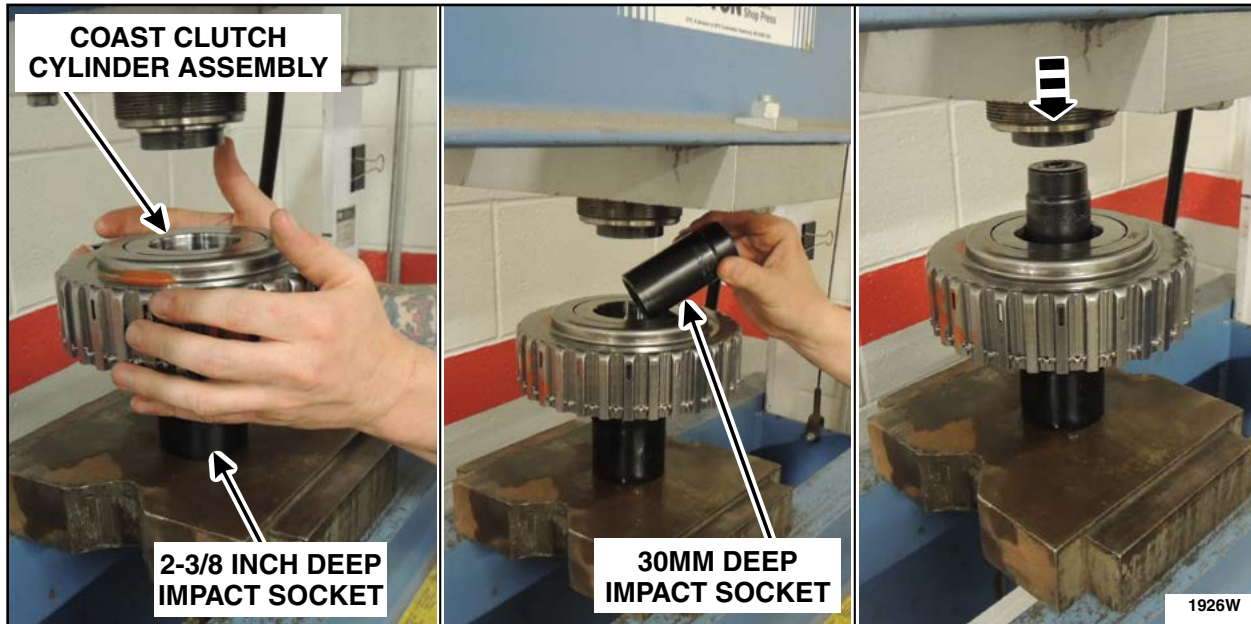

FIGURE 23
21. Using an arbor press, V-block plate and impact sockets, remove the sun gear. Discard the original coast clutch cylinder assembly and piston. See Figures 23 and 24.